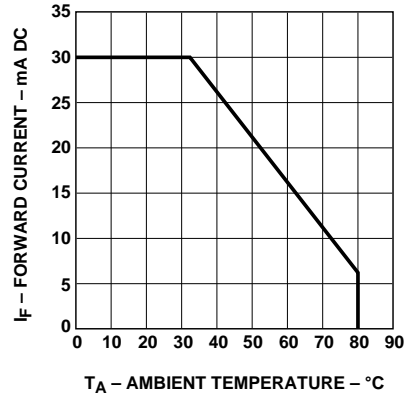

Figure 6. Maximum DC Forward Current vs. Ambient Temperature. Derating Based on  $T_J$  Max. = 115 °C.
- Derate linearly from 50 °C as shown in Figure 6.